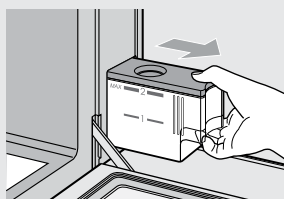

Figure 1
2. Wash the reservoir and lid for the first time. (Figure 1)